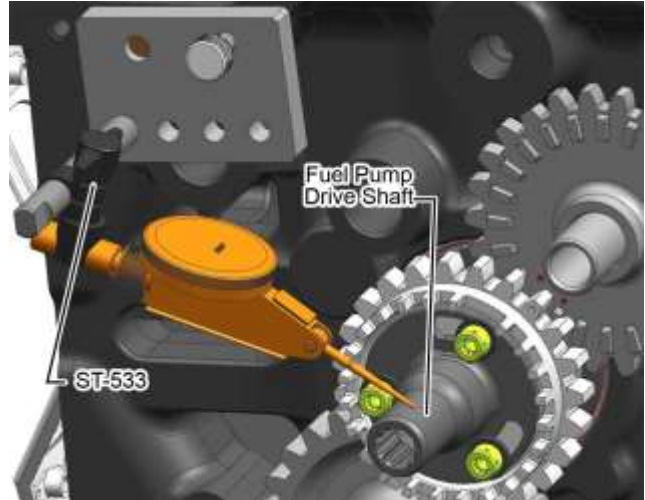
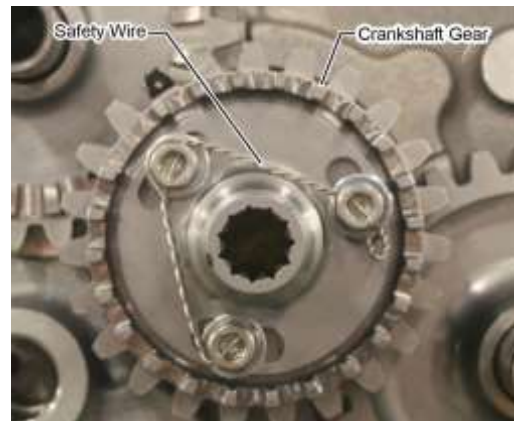

Figure 108
Figure 109
- M. Install the Fuel Pump Drive Shaft Indicator Mount (ST-533) on the left crankcase locating dowel and adjacent tapped bolt hole (Figure 108).
- (1) Remove the drive shaft
- (2) Turn the drive shaft 120°
- (3) Re-install the drive shaft, screws, washers and torque to 100 in.-lb. (11 Nm).
- (4) Re-check the drive shaft run-out.
- O. Safety wire the screws in the crankshaft trigger gear assembly as shown in Figure 109.